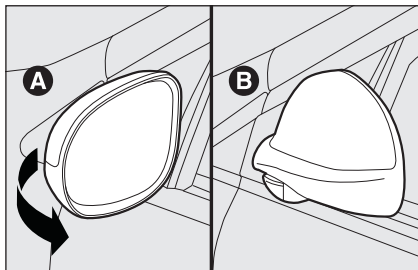

fig. 34
When required (for example when the mirror causes difficulty in narrow spaces) it is possible to fold the mirror moving it from position **A**-fig. 34 to position **B**.
*When driving the mirrors shall always be in position **A**-fig. 34.*